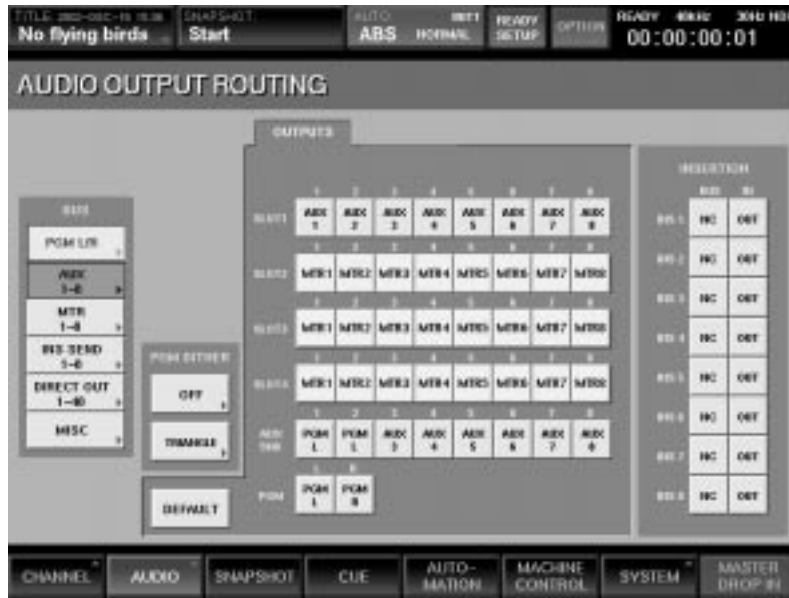

Figure 22
- 5 You can also make output assignments in blocks. To do so, simply press the desired BUS button once only, then press the OUTPUT button of the first of the contiguous output connectors you wish to make the assignment to. For example, to assign Aux Send Outputs 1 - 8 to Slot 1 outputs 1 - 8, press the AUX 1 - 8 BUS button once, then press the first of the eight Slot 1 outputs. (See Figure 22)